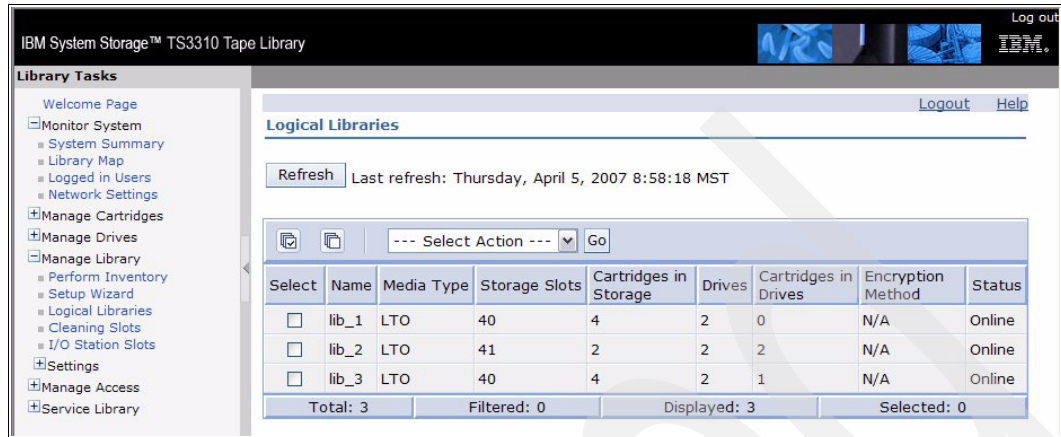

Figure 2-12 IBM TS3310 Logical Libraries.
2. Select **Manage Library** → **Logical Libraries** to display the present setting of logical libraries, as shown in Figure 2-12.